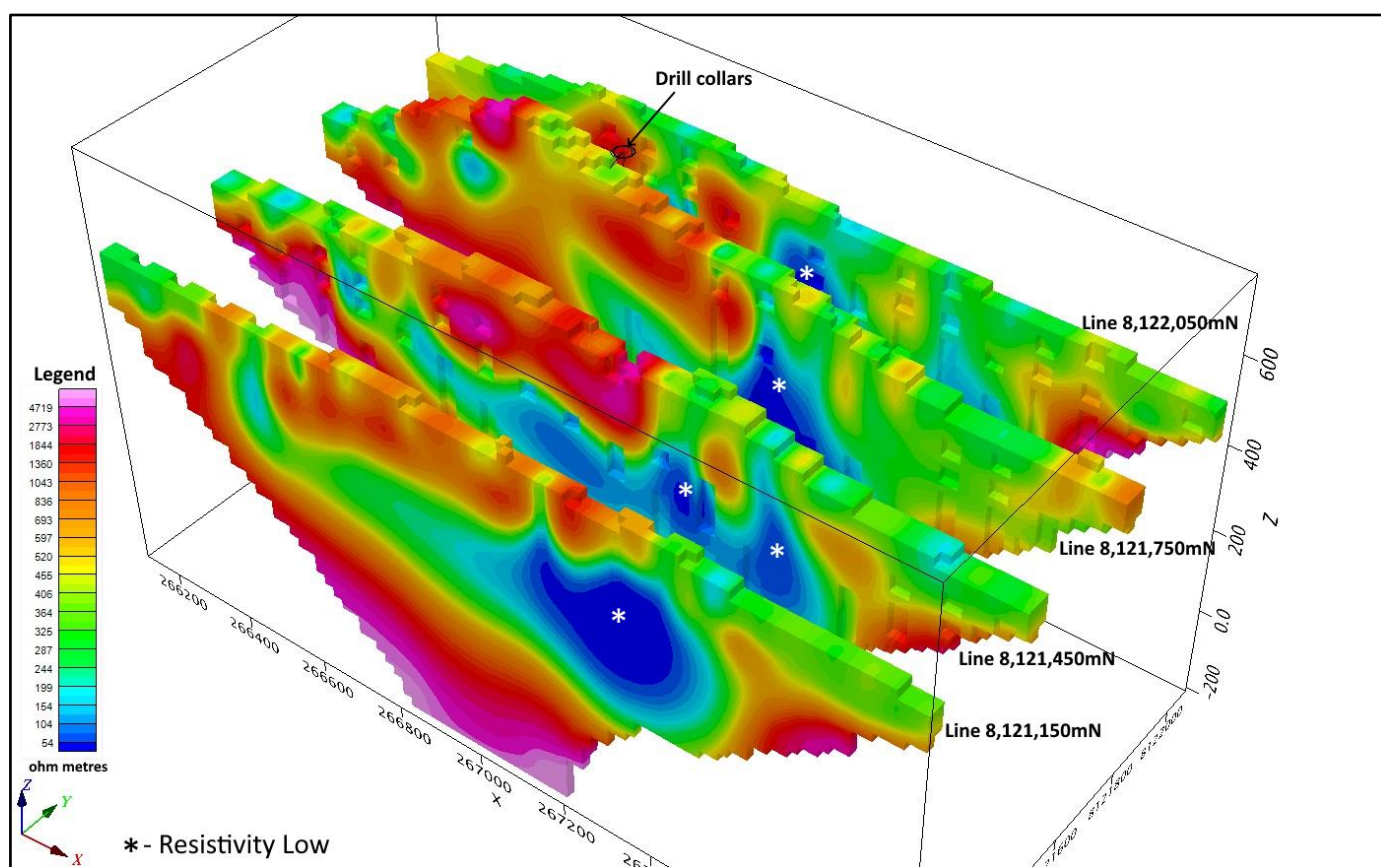

Figure 4: Maneater Hill Resistivity Sections.
- New anomaly is characterised by high chargeability gradient with associated structurally controlled resistivity low (Fig 4)